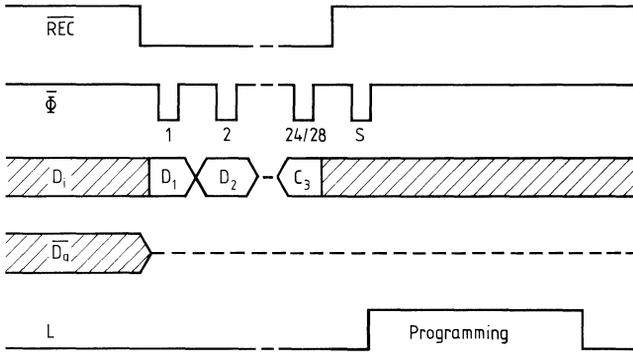

Figure 2a
**Figures 2a and 2b Programming operation (only the pertinent active levels are indicated)**